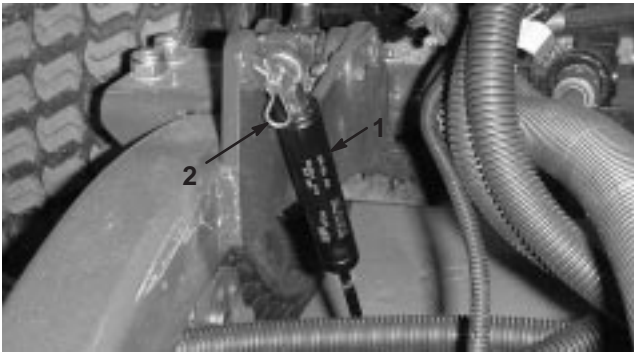

Figure 1
2. Remove the hairpin cotters securing dampers to lift arms (Fig. 1). Pivot dampers toward deck housing.